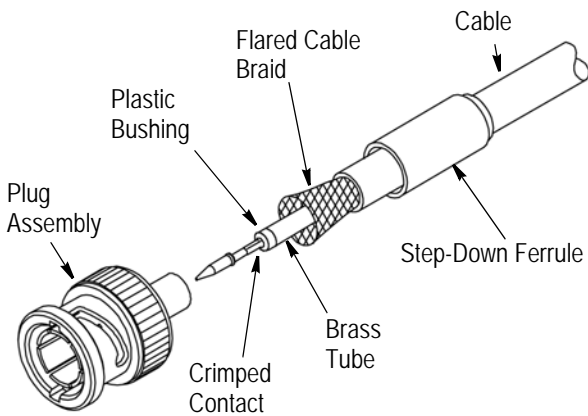

Figure 3
Refer to Figure 3 for orientation of step-down ferrule. For connectors supplied with bushing and tube, slip tube (flared end first), then bushing over the cable dielectric, as shown in Figure 3.
2. Insert center conductor into center contact. The center contact shoulder must be positioned against the cable dielectric, as shown in Figure 3. Be sure the cable insulation does not enter the center contact wire barrel.
4. Flare cable braid to allow the support sleeve of the plug assembly to pass under the cable braid. Refer to Figure 3.